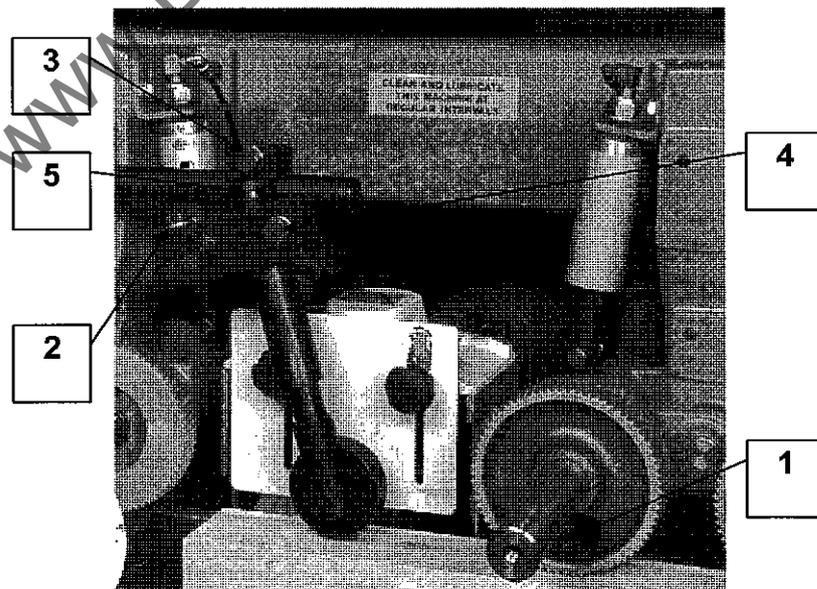

Figure 5.8.1
- 11 Using the crank handle, adjust shaft (6) until the spindle flange is 5mm behind the fence line. The final movement of the spindle should be **towards** the workpiece.
- 12 Tighten barrel clamp (5).
- 14 **Check that bedplate clamps (4) are tight and the bedplate is positioned as described in Step 6.**
5.8 Setting the Feed Rolls (Figures 5.8.1, 5.8.2 and 5.8.3)
Positioning Shaft-Mounted Feed Rolls (Figure 5.8.1)
Setting Top Roller Pressure (Figure 5.8.1)